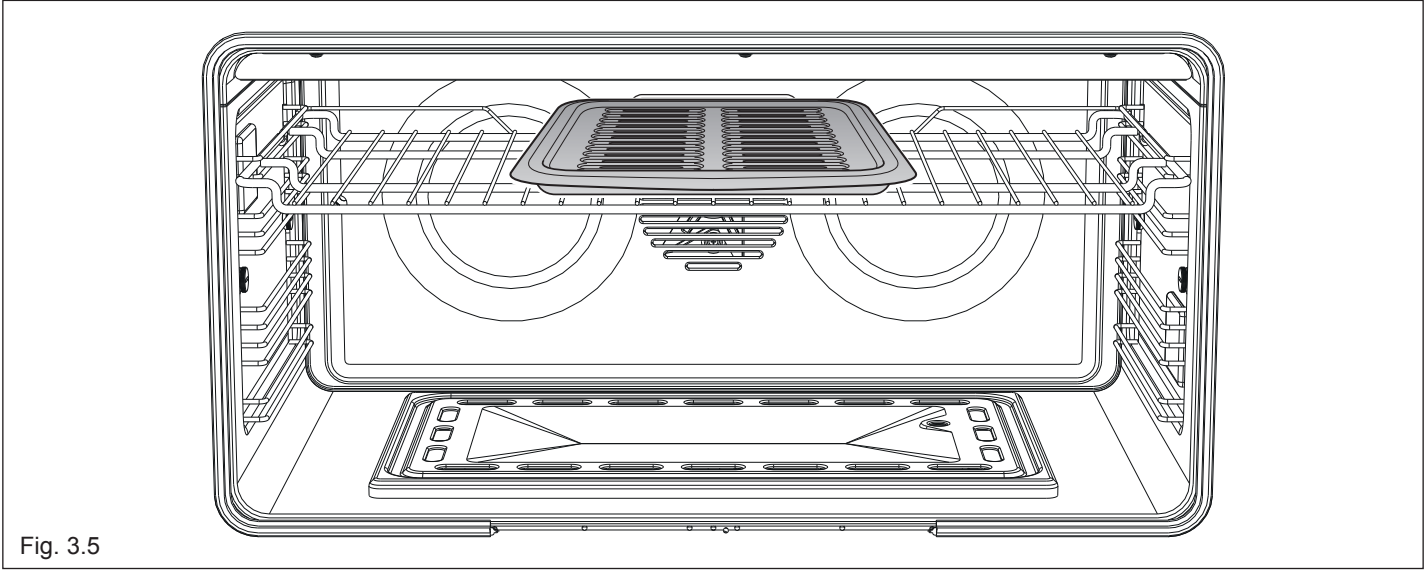

Fig. 3.5
- Position the shelf on the first level from the top (fig. 3.5).
- Introduce the broiling pan in the oven (fig. 3.8). The broiling pan should be placed above the shelf and it should be centered with the broil burner (fig. 3.5).